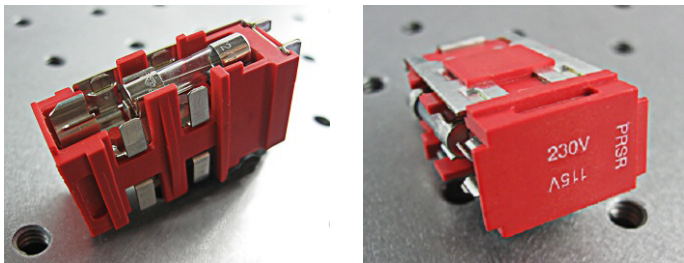

Figure 12. Fuse Installation and Voltage Selector
4. Insert the fuses as shown in **Figure 12**, with a short fuse at the contact end of the receptacle. Then, turn the drawer until the correct voltage label is at the top and replace it in the receptacle. Press firmly to make sure the drawer is completely seated. It should be flush with the receptacle.